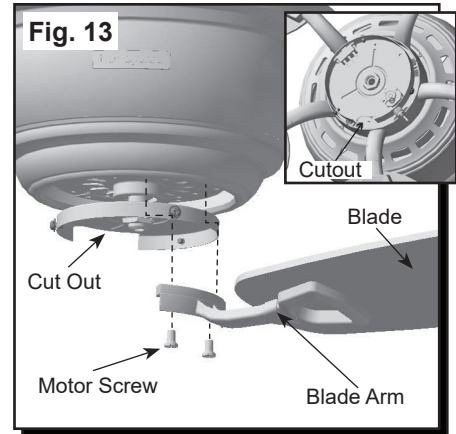

Fig. 13
13. Insert the two previously removed motor screws through one blade arm and then into the motor. Tighten motor screws securely. Repeat with remaining blade arms, making sure to completely secure each blade arm before proceeding (Fig. 13).